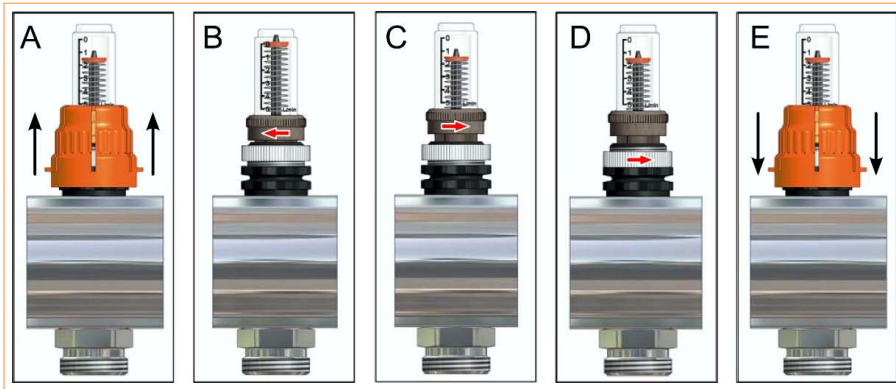

Fig. 1: Flow meter adjustment and block.
1. Remove the orange cover as in Fig.1-A;
2. Set the Flow meter in closure position by turning the upper lock ring in the direction indicated by the arrow in Fig.1-B; NB: in closure position, the indicator points a null flow-rate;
3. Open the device by turning the same lock ring in the opposite direction (Fig.1-C), and check the correct flow rate through the spyglass;
4. Screw the lower lock ring in the direction indicated in Fig.1-D, until mechanical stop;
5. Put back the orange cover (Fig.1-E);